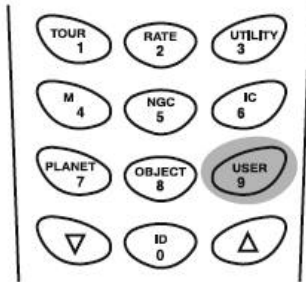

Fig. 44
***Hint:** The User Objects menu can also be accessed directly by pressing the quick reference hot key #9 on the hand control numeric keypad, as pictured in Fig. 44*